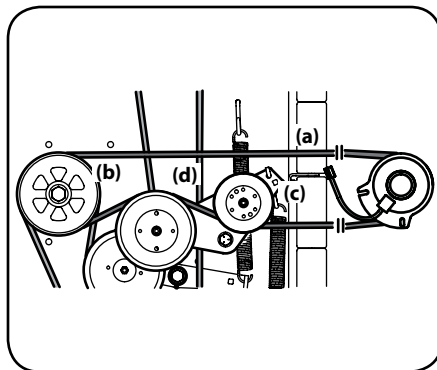

Figure 4-14
1. Remove the PTO belt (a) from the deck as instructed in the Deck Removal section then remove it from around the PTO clutch. See Figure 4-14.
2. Route the PTO belt (a) as shown in Figure 4-14. After routing the belt around the PTO pulley (b), use a 1/2" drive in the idler pulley bracket (c) and turn towards the right of the tractor to finish routing the belt around the idler pulley (d).